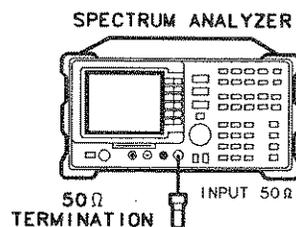

Figure 3-22. Residual Response Test Setup
1. Connect the termination to the analyzer's input as shown in Figure 3-22. *Option 001:* Use the adapter to connect the 75 Ω termination, and proceed with step 5.